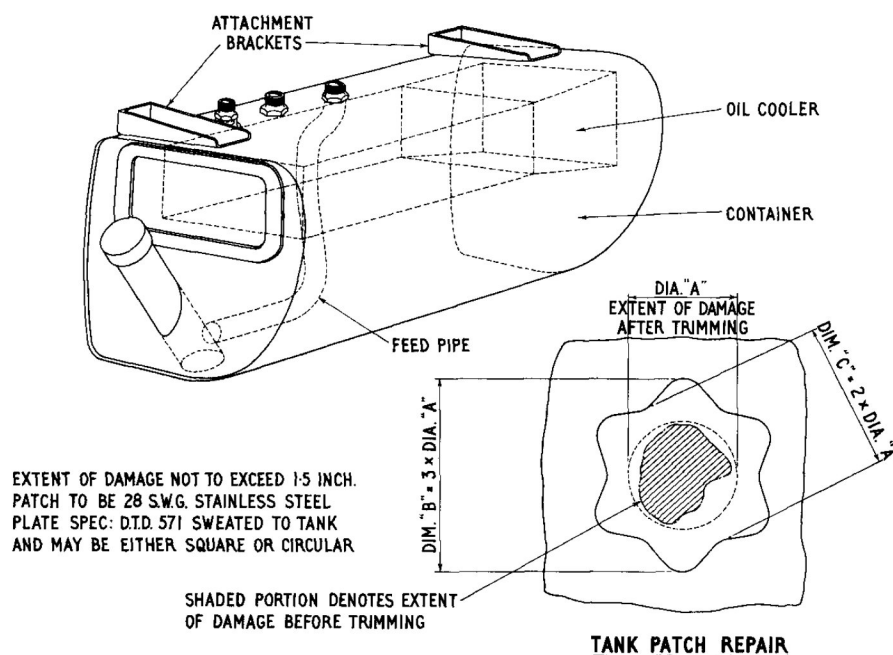

Fig. 3/1. Repair of tanks
1. All piping in both the fuel and oil systems should be renewed if damaged.	3. Holes of any size can be repaired as shown in fig. 3/1. When repairing damage it will be necessary first to remove the cooler which can be done by removing the bolts at both ends thereby breaking the joints and enabling the withdrawel of the cooler through the end opposite the filler cap. When refitting, new gaskets must be used.